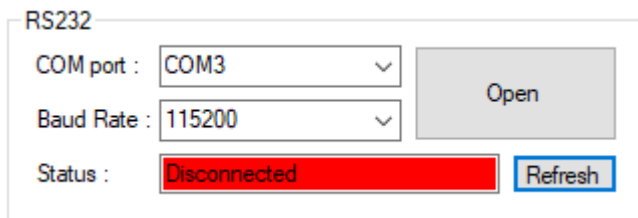

Figure 4: RS232 Setup - Disconnected
1. When the AT GUI program runs, the connection status is red (not connected). If the program does not detect any COM port, click the **Refresh** button to refresh the COM Port. See Figure 4.